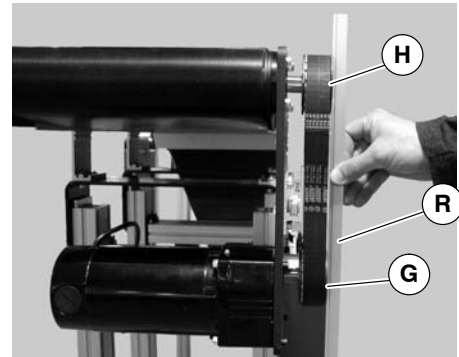
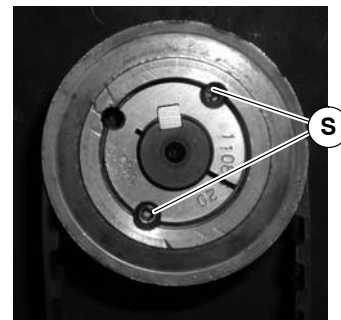
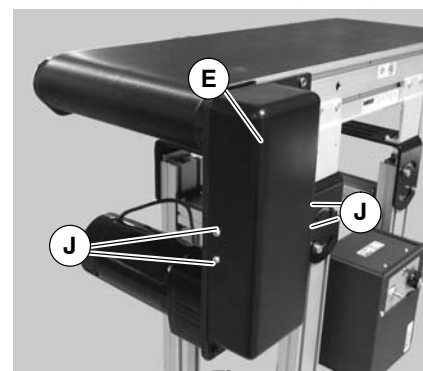

Figure 6
Figure 7
Figure 9
- Install cover (E of Figure 9) with four (4) screws (J). Tighten screws to 35 in-lb (4 Nm).
- Wrap timing belt (F) around driven pulley (H) and drive pulley (G). Install driven pulley (H) onto conveyor shaft.
- Using a straight edge (R of Figure 6), align driven pulley (H) with drive pulley (G). Tighten driven pulley taper-lock screws (S of Figure 7).
1. Remove four (4) screws (J of Figure 9) and remove cover (E).
4. Install cover (E of Figure 9) with four (4) screws (J). Tighten screws to 35 in-lb (4 Nm).
NOTE: If timing belt does not slide over pulley flange, loosen driven pulley taper-lock screws (S of Figure 7 & 11) and remove pulley with belt (F). For re-installation, see steps 5 and 6 on page 7.
6. Install cover (E of Figure 9) with four (4) screws (J). Tighten screws to 35 in-lb (4 Nm).